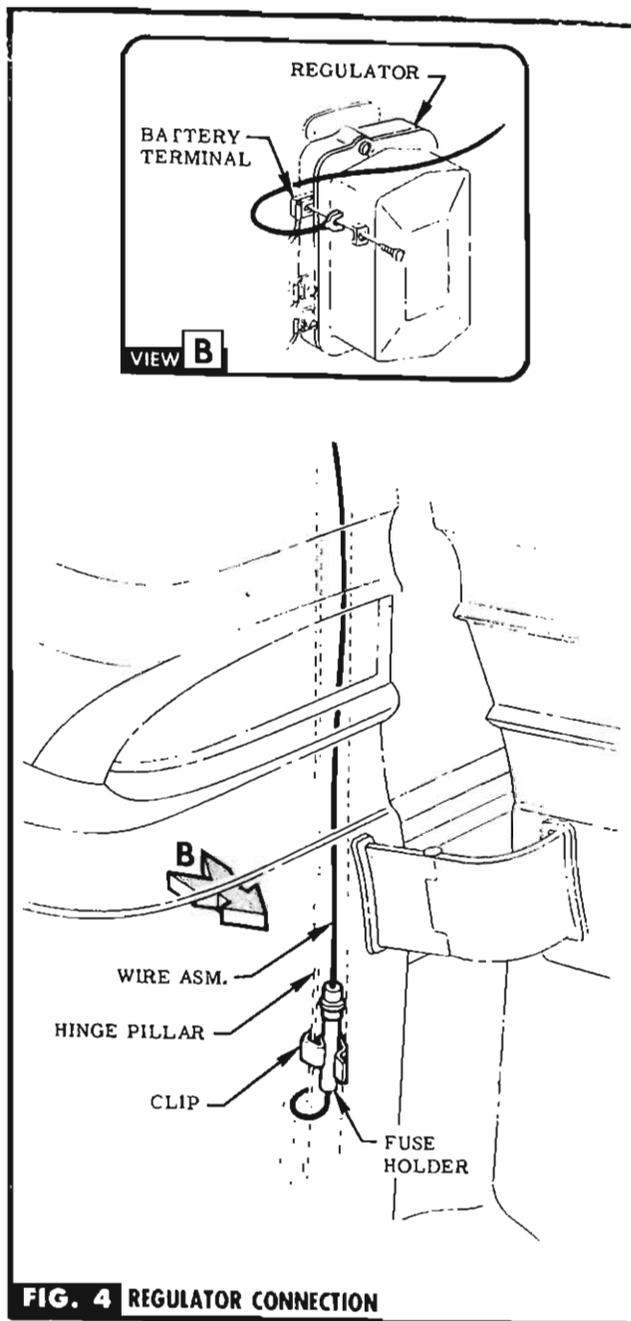
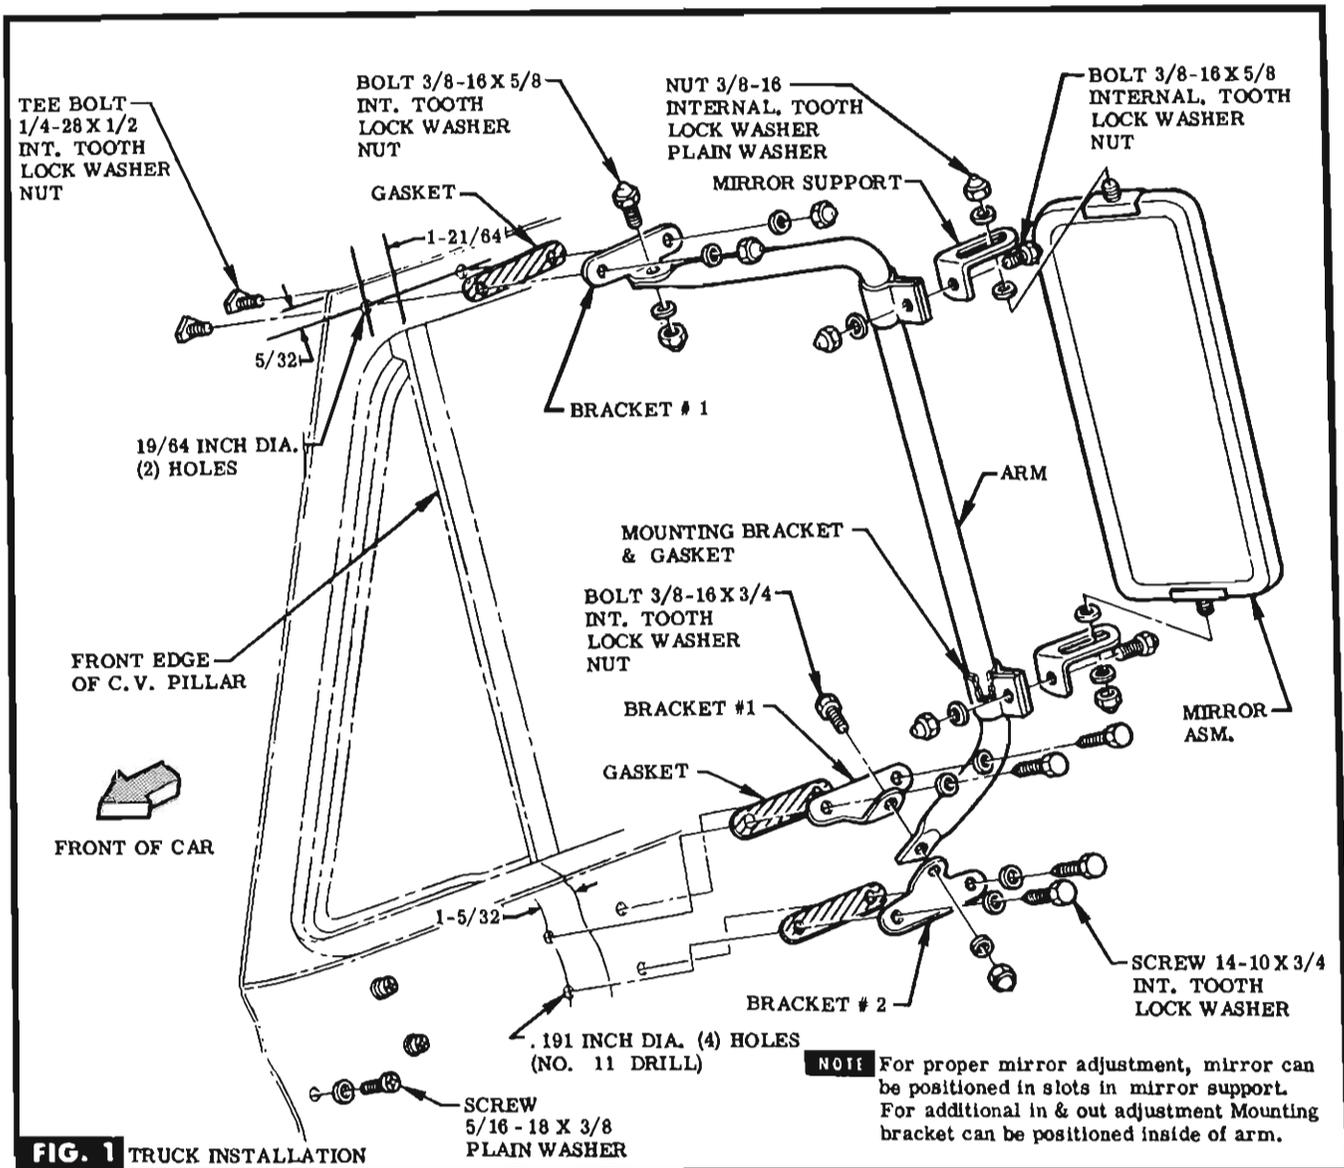

FIG. 4 REGULATOR CONNECTION
FIG. 1 TRUCK INSTALLATION
STEP 12 ROUTE TERMINAL END OF WIRE ASM. TO FRONT OF REGULATOR, CLIP FUSE HOLDER TO HINGE PILLAR & CONNECT WIRE TO BATTERY TERMINAL ON REGULATOR. SEE FIG. 4 & VIEW B, & ALSO CLIP WIRE TO HINGE PILLAR. SEE FIG. 1.
STEP 1 ON L. H. SIDE ONLY, REMOVE & DISCARD EXISTING MIRROR & ATTACHING PARTS. PLUG HOLES WITH PARTS PROVIDED. SEE FIG. 1.
STEP 2 MARK HOLE CENTER AT TOP OF DOOR & VERTICAL CENTERLINE AT BOTTOM FROM FRONT EDGE OF C.V. PILLAR, USE DIMENSIONS SHOWN. USING TOP BRACKET (STAMPED # 1) AS TEMPLATE, MARK REMAINING TOP HOLE. SEE FIG. 1.
STEP 3 CENTERPUNCH & DRILL TOP HOLES & ATTACH TOP BRACKET (STAMPED # 1) & GASKET WITH ATTACHING PARTS PROVIDED. SEE FIG. 1.
STEP 4 ASSEMBLE MOUNTING BRACKETS & GASKETS TO ARM. SEE FIG. 1. **NOTE** Do not spread brackets over tube, but assemble from arm end.
STEP 5 ASSEMBLE BRACKET (STAMPED # 1) TO TOP SIDE OF LOWER PART OF ARM, & BRACKET (STAMPED # 2) TO BOTTOM SIDE OF LOWER PART OF ARM WITH ATTACHING PART PROVIDED. SEE FIG. 1.
STEP 6 ATTACH UPPER PART OF ARM TO UNDER SIDE OF TOP BRACKET WITH ATTACHING PARTS PROVIDED. SEE FIG. 1.
STEP 7 LINE UP LOWER BRACKETS WITH CENTERLINE PREVIOUSLY MARKED, USE BRACKETS AS TEMPLATE. MARK HOLE CENTERS, CENTERPUNCH & DRILL BOTTOM HOLES. SEE FIG. 1.
STEP 8 ATTACH BOTTOM BRACKETS & GASKETS WITH ATTACHING PARTS PROVIDED. SEE FIG. 1.
STEP 9 ASSEMBLE MIRROR SUPPORTS TO MIRROR WITH ATTACHING PARTS PROVIDED. SEE FIG. 1.
STEP 10 INSTALL MIRROR BY ATTACHING MIRROR SUPPORTS TO MOUNTING BRACKET WITH ATTACHING PARTS PROVIDED. SEE FIG. 1.